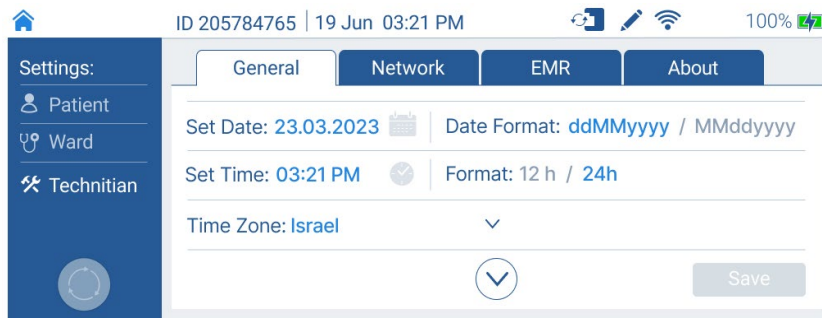

Figure 7 - Technician Settings Screen
2. Make sure device regional settings and measurement units are correct. If necessary, follow the screens to the Technician Settings Screen (see Figure 7) and configure settings with a FIZE Medical authorized technician.